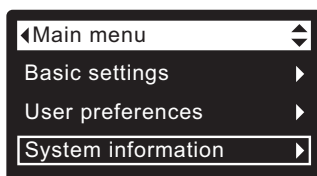

FIG. 64
1. From any of the rolling status screens, press the SELECT (O) button to display the **Main menu**.
2. Press the DOWN (▼) button to scroll through the menu options until **System information** is highlighted (See Figure 64).